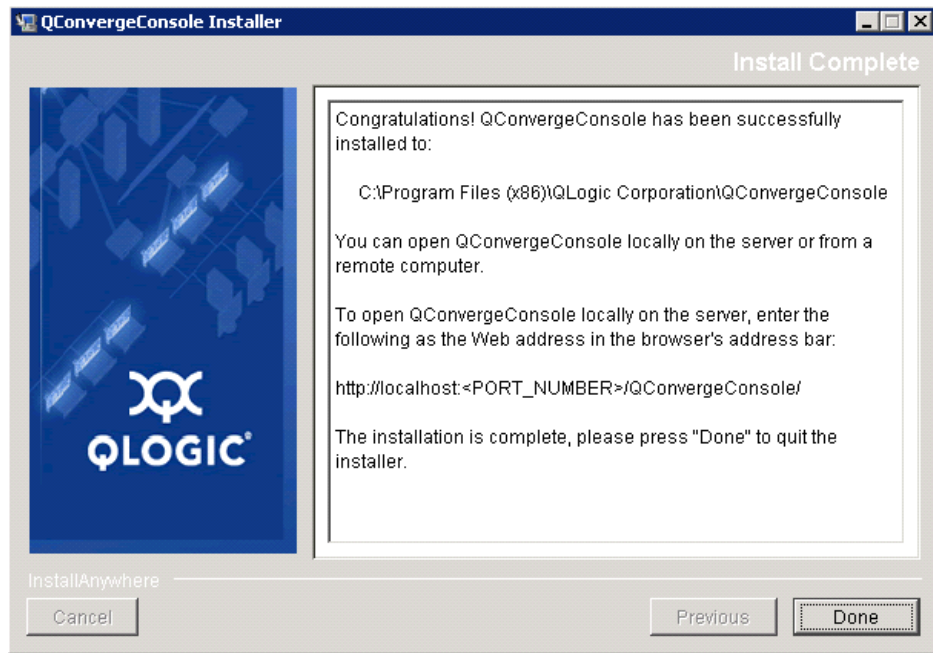

Figure 89 Installation Complete window
7. When the **Installation Complete** window displays as shown in Figure 89, click **Done** to complete the installation.